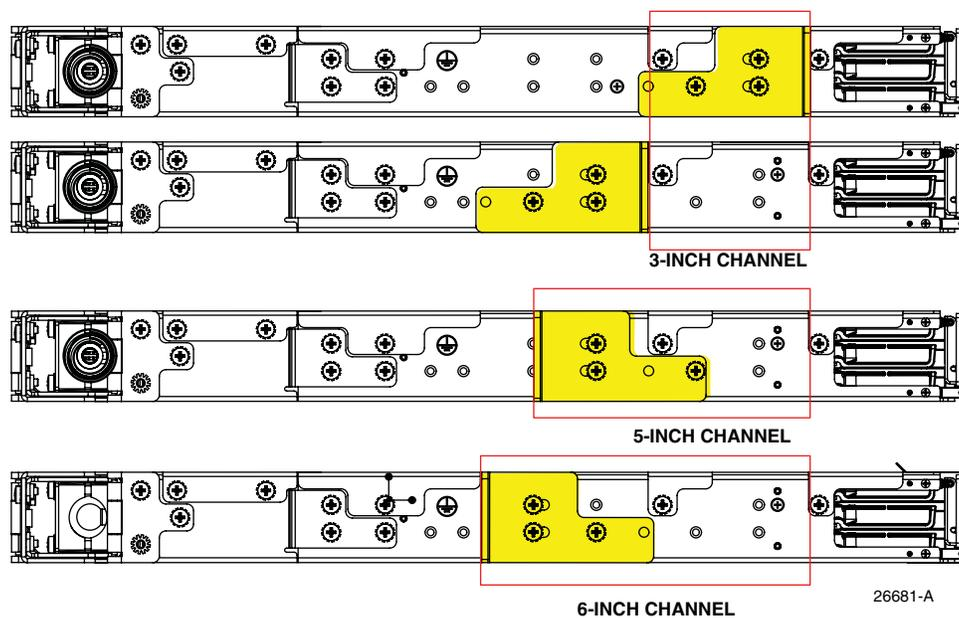

Figure 12. Mounting Positions on 3-Inch, 5-Inch, and 6-Inch Channel Racks
2. If the panel will be installed on a channel rack, determine the channel size and whether the panel will be installed on front or rear. Figure 12 shows comparative mounting positions of a 1RU panel on 3-inch, 5-inch, and 6-inch channel racks.